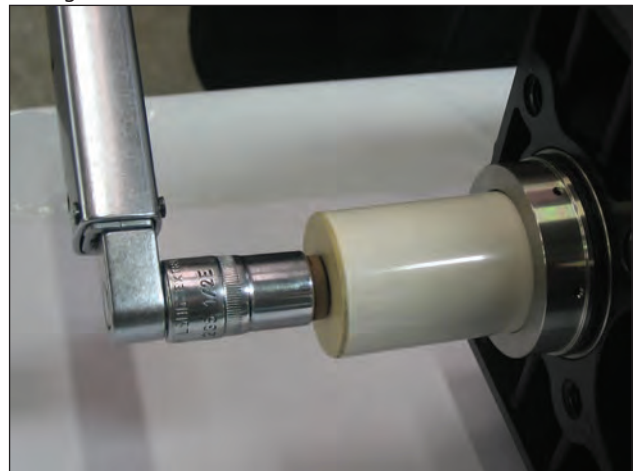

Fig. 23
A) Unscrew the M7x1 piston fixing screws as indicated in Fig. 23.